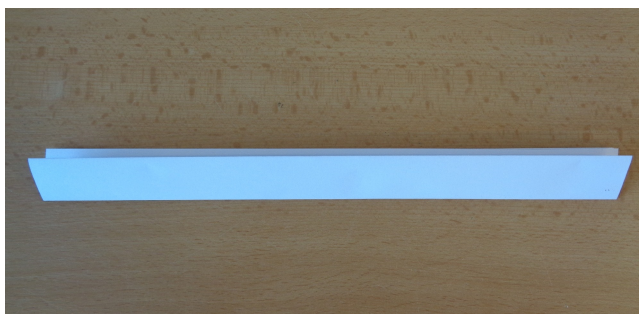

Figure 4
- Prepare a paper strip for cleaning. Fold one sheet of office paper few times along the longer side to get similar shape as in Fig. 4.